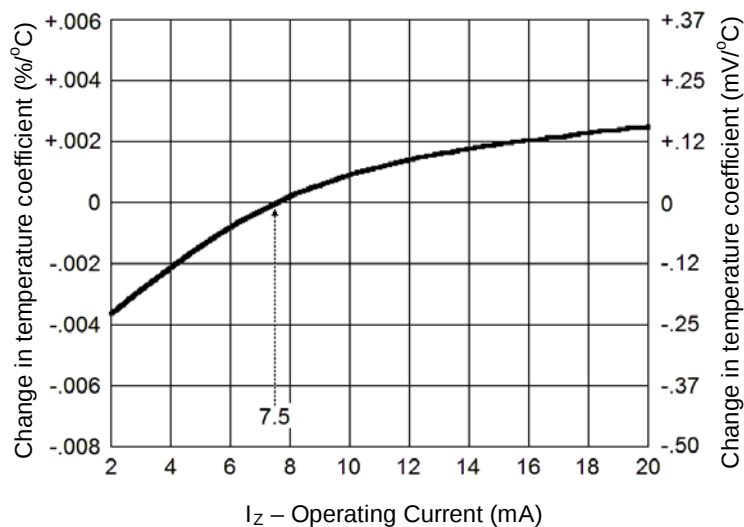

FIGURE 3
The curve shown in Figure 3 is typical of the diode series and greatly simplifies the estimation of the Temperature Coefficient (TC) when the diode is operated at currents other than 7.5 mA.
EXAMPLE: A diode in this series is operated at a current of 7.5 mA and has specified Temperature Coefficient (TC) limits of $\pm 0.005\%/^{\circ}\text{C}$. To obtain the typical Temperature Coefficient limits for this same diode operated at a current of 6.0 mA, the new TC limits ($\%/^{\circ}\text{C}$) can be estimated using the graph in FIGURE 3. At a test current of 6.0 mA the change in Temperature Coefficient (TC) is approximately $-0.0006\%/^{\circ}\text{C}$. The algebraic sum of $\pm 0.005\%/^{\circ}\text{C}$ and $-0.0006\%/^{\circ}\text{C}$ gives the new estimated limits of $+0.0044\%/^{\circ}\text{C}$ and $-0.0056\%/^{\circ}\text{C}$.
In conjunction with Figure 3, this curve can be used to estimate total voltage regulation under conditions of both varying temperature and current.